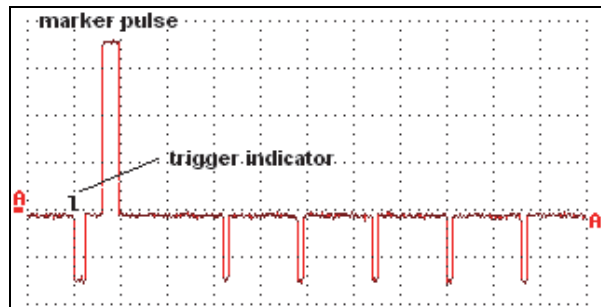

Figure 4-12. SC600 Marker Pulse
12. Observe the trace and check if the Test Tool triggers on the negative pulse before the marker pulse (see Figure 4-12).